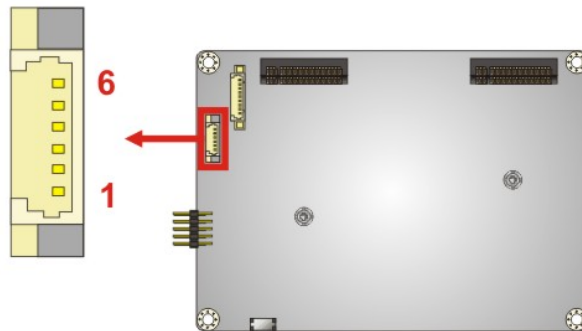

Figure 3-10: Backlight Inverter Connector Location
- CN Location:** See Figure 3-10